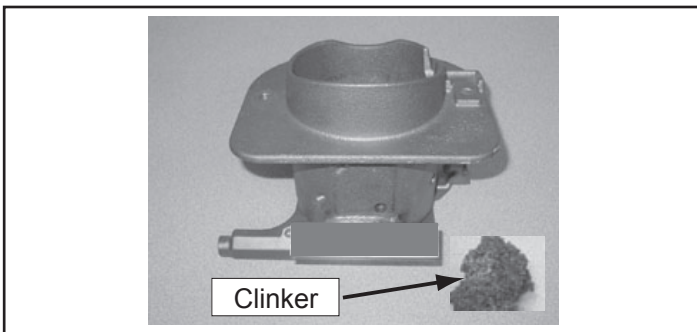

Figure 17.1 - Fire pot with large clinker
- d. It may be necessary to use your fire pot clean out tool to chip away material that has built up on the sides of the fire pot and to push out any clinkers. **Figure 17.1**